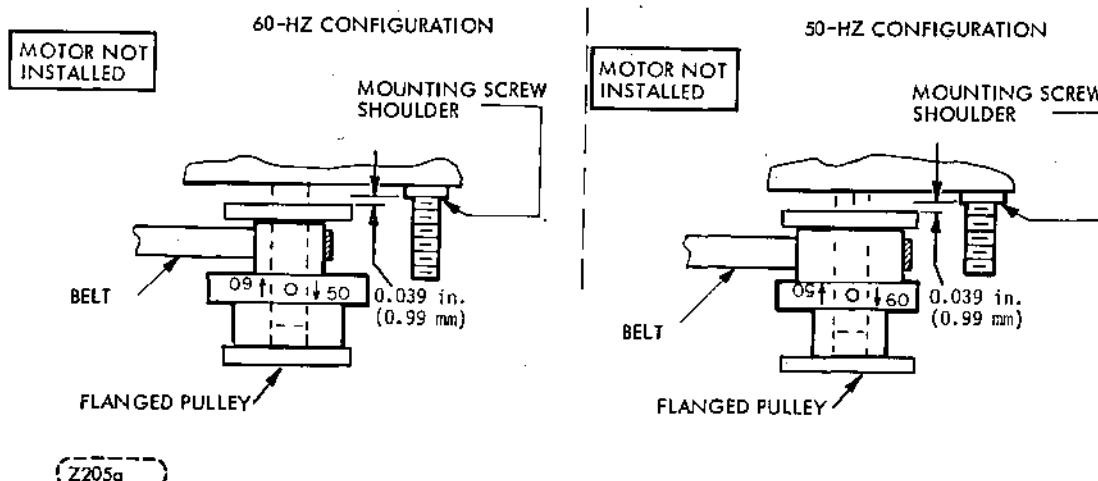

Figure 6-13. Drive-Pulley Reversal
- f. Position pulley allowing tolerance of 0.039 in. (0.99 mm)  $\pm$  0.10 in. (0.254 mm) between shoulder of motor mounting screws and pulley (Figure 6-13).